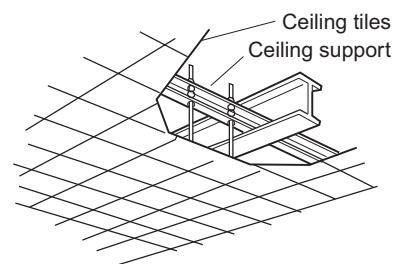

Fig. 2-100
- Use existing ceiling supports or construct a suitable support as shown in the diagram. (Fig. 2-100)